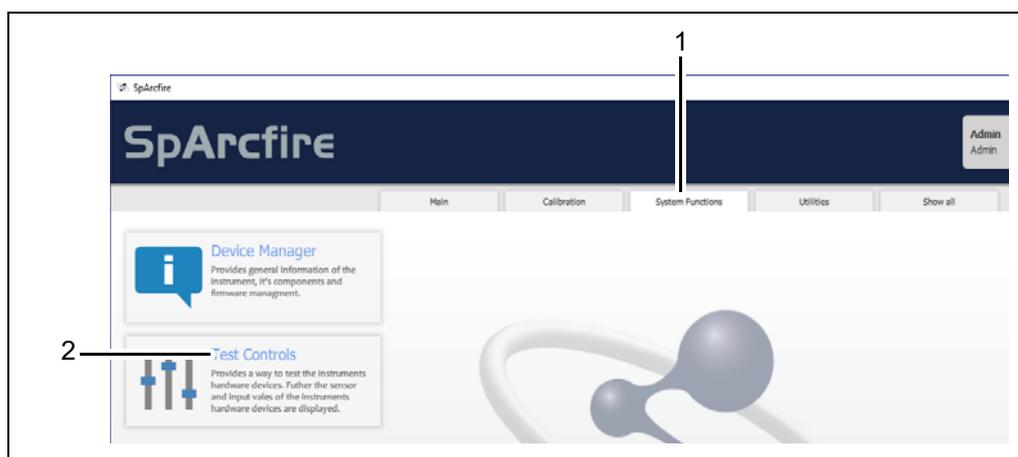

Fig. 5-5 "System Functions" window
4. Now start the application "Test Controls" (2, fig. 5-5, page 5-21).